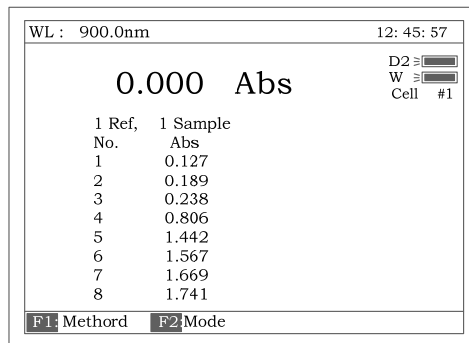

Fig 107
- Remove 8 references and put 8 samples into CELL NO.1-NO.8, Press the [START], the results are taken **automatically** . Fig 107.